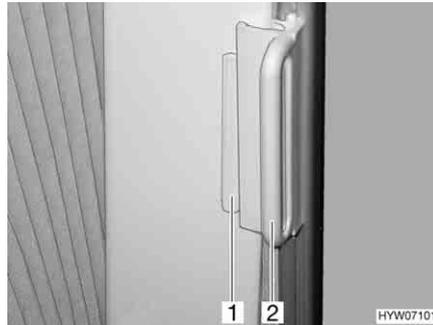

Fig. 111 Roman shade, driver's cabin window
- Grasp the handle (Fig. 111,2) of the Roman shades and draw carefully until the magnetic catch keeps the Roman shades closed.
- Push the handle (Fig. 111,2) onto the cap (Fig. 111,1). The Roman shade is secured.